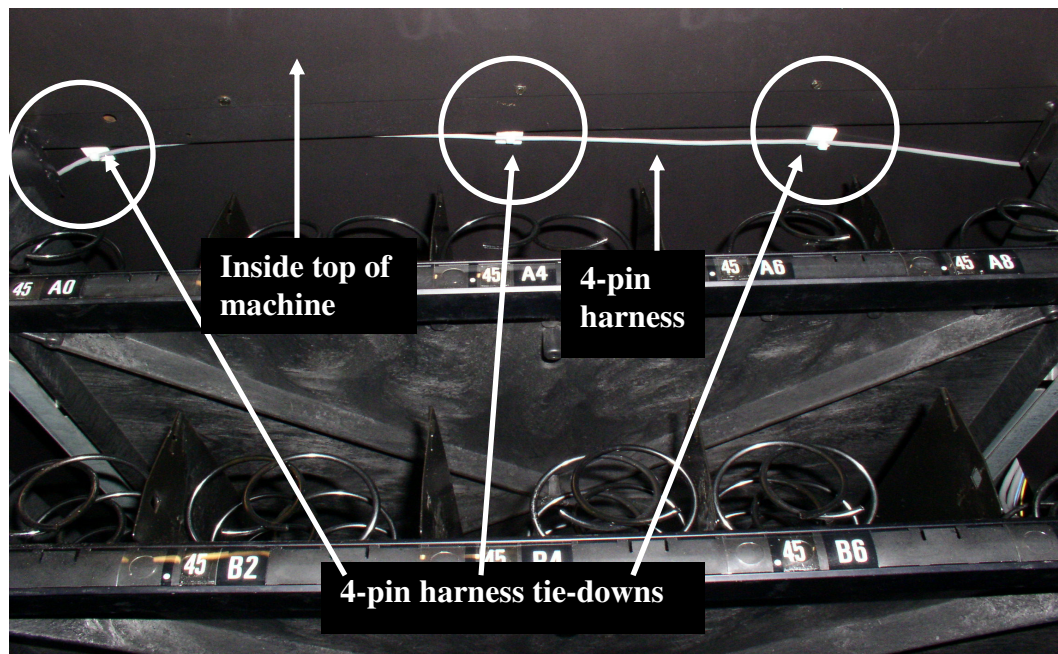

Figure 3 (Typical representation)
3) Plug 4-pin sensor harness into CN14 (National 147/148) or CN12 (National 157/158) of the SmartBoard harness board. Run 4-pin harness through to inside top of machine and continue over inside top of machine. Use tie cables (VE 4601) and tie cable hold-downs (VE 4560), provided in kit, to secure harness. Continue running harness toward hinged side main of door. (Figure 3)